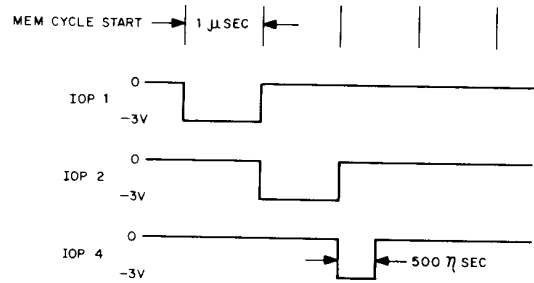

Figure 2-3 IOP Timing Diagram for PDP-9
- b. The microprogrammed signals IOP1, IOP2 and IOP4 are generated by the IOP control logic, if they are selected by the instruction, and appear in time sequences defined by the IOP timing diagram (Figures 2-3 and 2-4). They are used by the device to effect data transfers, sense the status of a device, or issue commands.